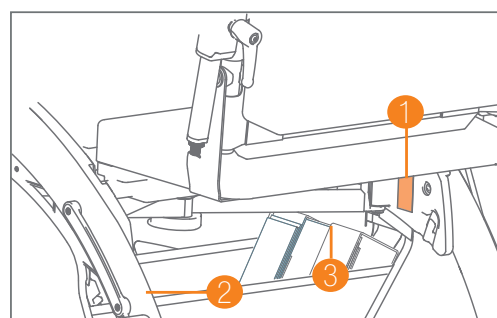
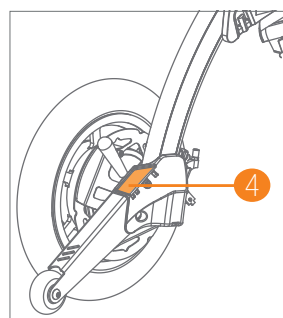
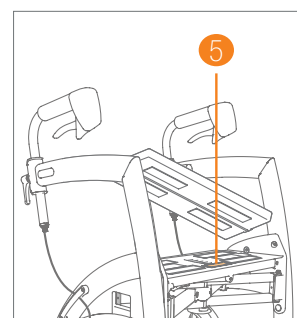

Figure 84: Location of the labels and stickers on Rollz Motion Electric
Figure 85: Freewheel stickers on the anti-tipping aids.
Figure 86: Remove the cushion to view the product label on the seat.
12. Ensure that the Rollz Motion Electric displays the product label and stickers for safe operation and regulatory compliance (**Figure 84, Figure 85, Figure 86**).
Do not remove, cover, or obstruct any labels or stickers on the device and battery, as these contain vital information that users and maintenance personnel rely on to operate the device safely (**Figure 84** and **Figure 85**). Altering or obscuring labels may result in misuse, increased risk of malfunction, or voiding of warranties and regulatory standards.
Register your product with Rollz International by filling out the online form on www.rollz.com. Make sure to enter the serial number of your Rollz Motion Electric. This number can be found on the sticker on the seat (**Figure 86**). When registering, you can also sign up for an e-mail newsletter to stay informed about Rollz product news.